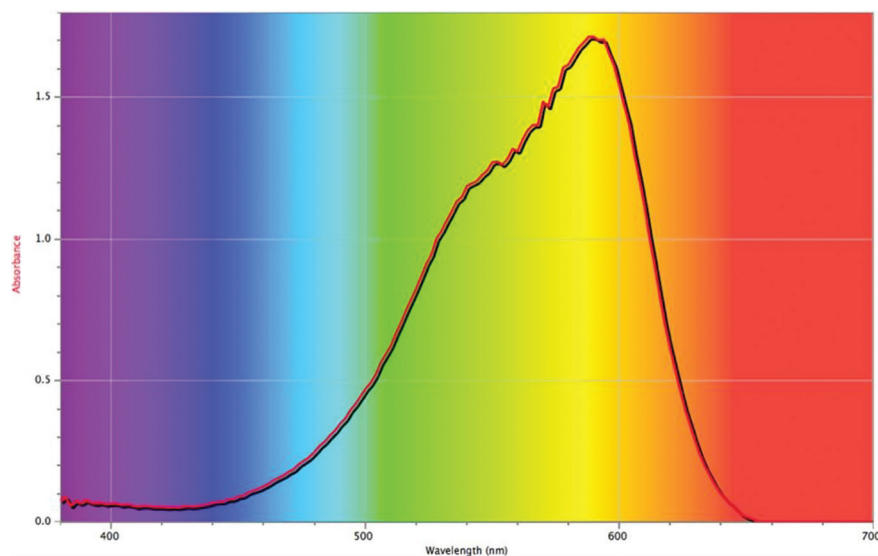

Figure 1. The visible spectrum of a 25 μM CV solution
- a. Based on the absorption spectrum of $25\ \mu\text{M}$ crystal violet in Figure 1 and taking into account the considerations that follow, what wavelength should you use for the Beer's law calibration curve and subsequent reaction of CV with NaOH? Please explain your answer.
- b. Simulate the instrument readings you will get in Part 1 of the experiment by doing the following: Trace Figure 1 onto your own paper. Draw a vertical line at the wavelength you have chosen, intersecting the absorbance curve at that wavelength. Where your vertical line intersects the absorbance curve is the absorbance value your instrument should read for the stock $25\ \mu\text{M}$ CV solution. Keeping in mind Beer's law from Equation 1, and being mindful that the wavelength and path length are fixed, draw X's on your vertical line where you expect the absorbance values will be for the diluted solutions you prepare in Question 2. Use appropriate ratios of concentrations to determine where on the vertical line to make your marks.
For a fixed concentration of solute and a fixed path length (e.g., fixed cuvette width), the amount of light absorbed by a solution varies directly with the absorptivity constant of the solute. Figure 1 below shows the visible light absorbance spectrum of CV for a fixed, 25 μM , concentration of CV and a fixed, 1.0 cm, path length. Because concentration and path length are both kept constant, Figure 1 reveals how the absorptivity constant for CV varies with the wavelength of light passing through the solution. Figure 1 was generated by a spectrophotometer. A colorimeter is an instrument that, like a spectrophotometer, measures how much light is absorbed when passed through a sample but does so for only a few predetermined wavelengths of light set by the manufacturer.